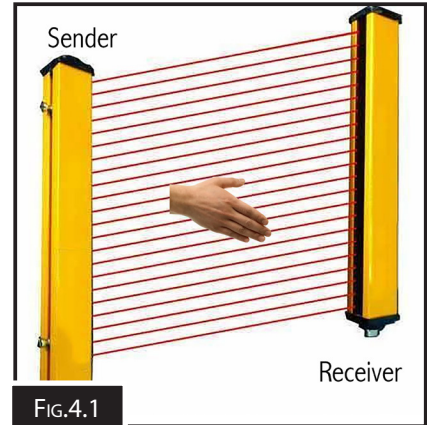

FIG.4.1
**Guarding System** - This press brake has an electronic guarding system called Foldsafe. The system comprises of a Foldsafe box with a display, a PLC and circuit board. There is also a beam encoder, one set of light curtains (Fig.4.1), E-stops, back door switch etc. The PLC controls the safety depending on what signals it gets from all these components
**Light Curtains** - There is an emitter and a receiver in a light curtain set. (Fig.4.1) These are basically an electronic switch that can send a signal to the PLC in the guarding system indicating there is something in the work area.